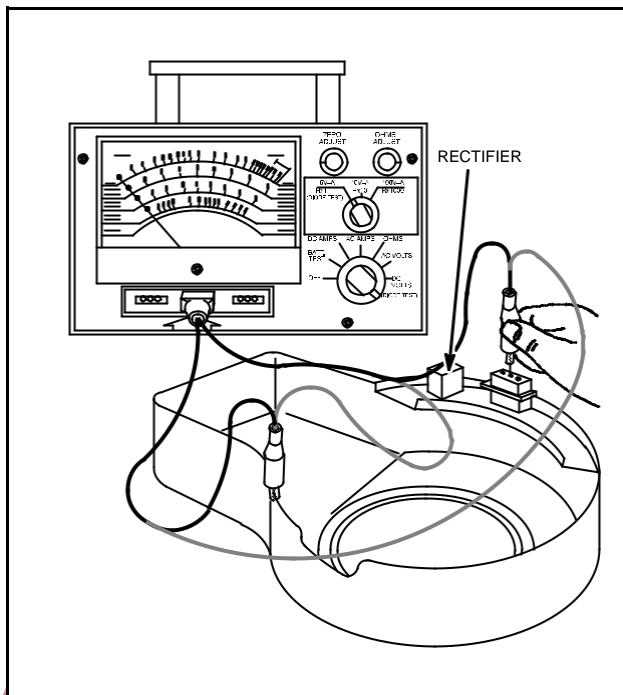

Fig. 749 – TESTING RECTIFIER
4. Attach BLACK test lead clip to fuse cap test lead, Fig. 749.